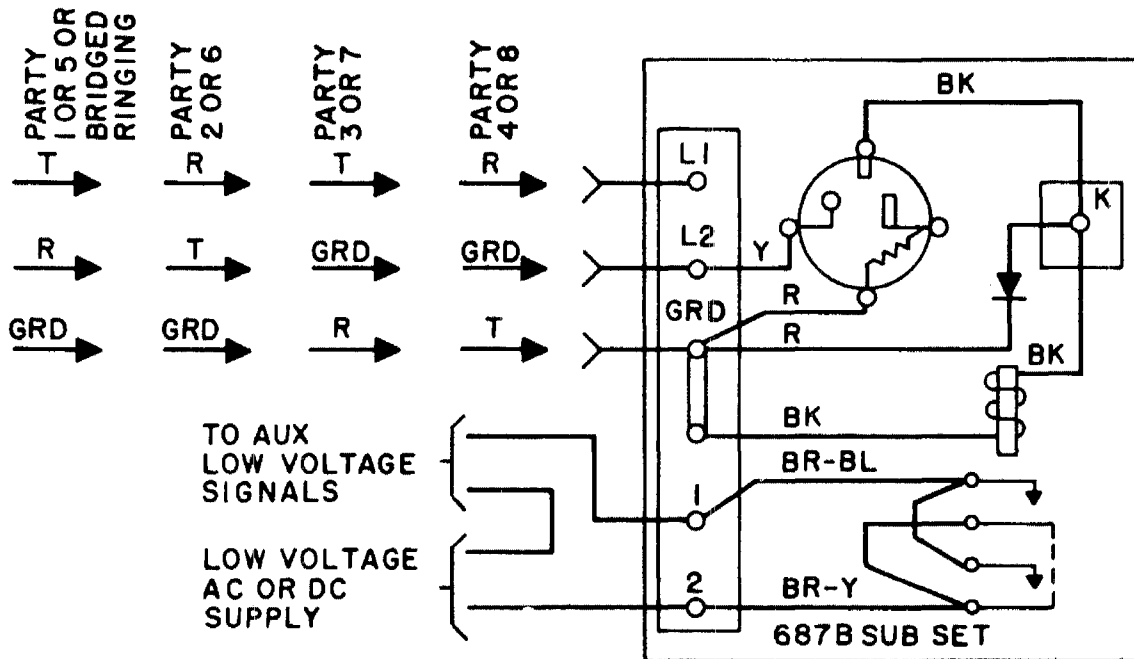

Fig. 7 - Noncontinuous Low Voltage Auxiliary Signals
2.07 Connections for noncontinuous low voltage signals such as bells, buzzers, and lamp indicators are shown in Fig. 7.